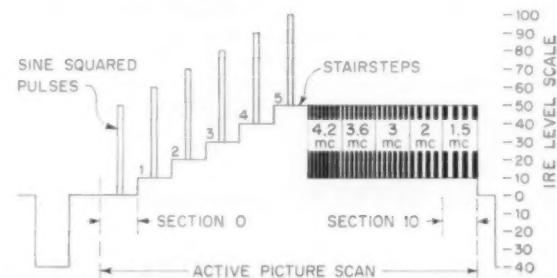

Fig. 2. Bands 5 through 8.
2.1.2 A stairstep signal consisting of a five-step linear gray scale extending from black level to 50 IRE units respectively, as shown in Fig. 2.	5 through 8
2.1.3 A series of five sine-wave bursts, as shown in Fig. 2, and described as follows: The time sequence of the burst frequencies shall be 4.2, 3.6, 3.0, 2.0 and 1.5 mc. The axis of the multiburst shall be at 30 IRE units, and the peak-to-peak amplitude shall be 40 IRE units. Each burst duration will be at least 75% of the section width.	5 through 8